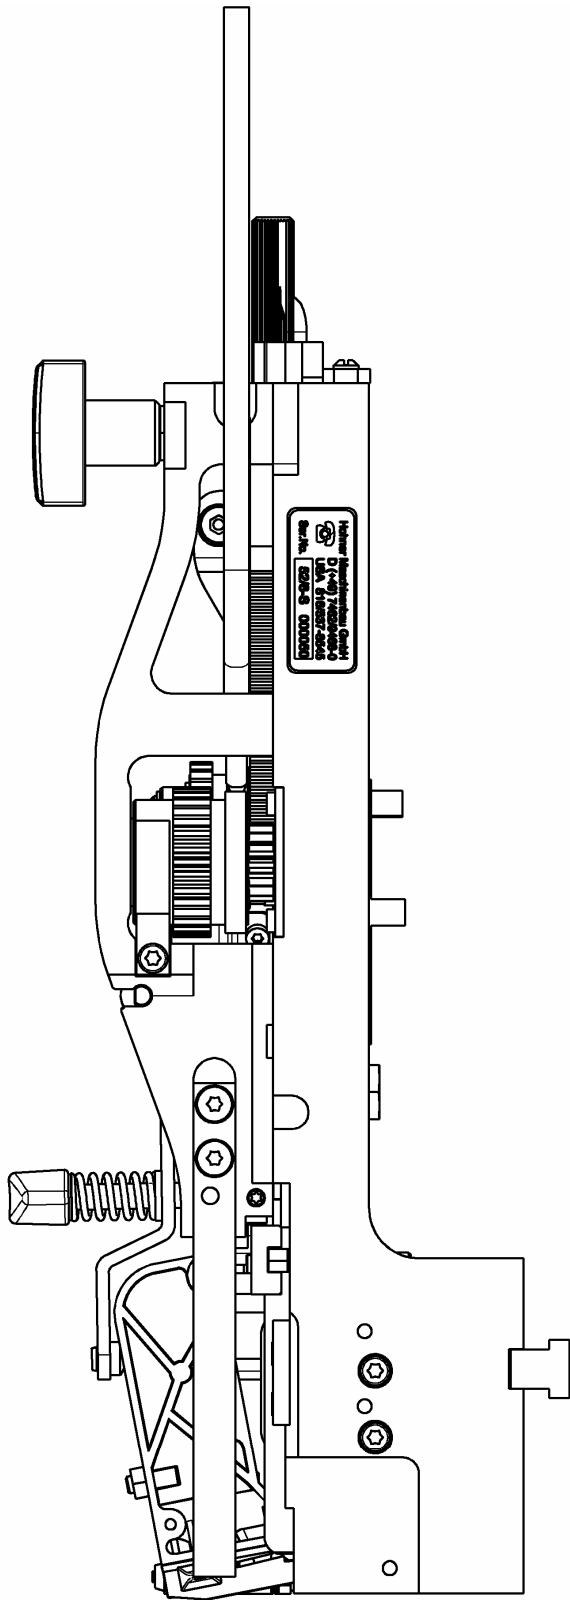
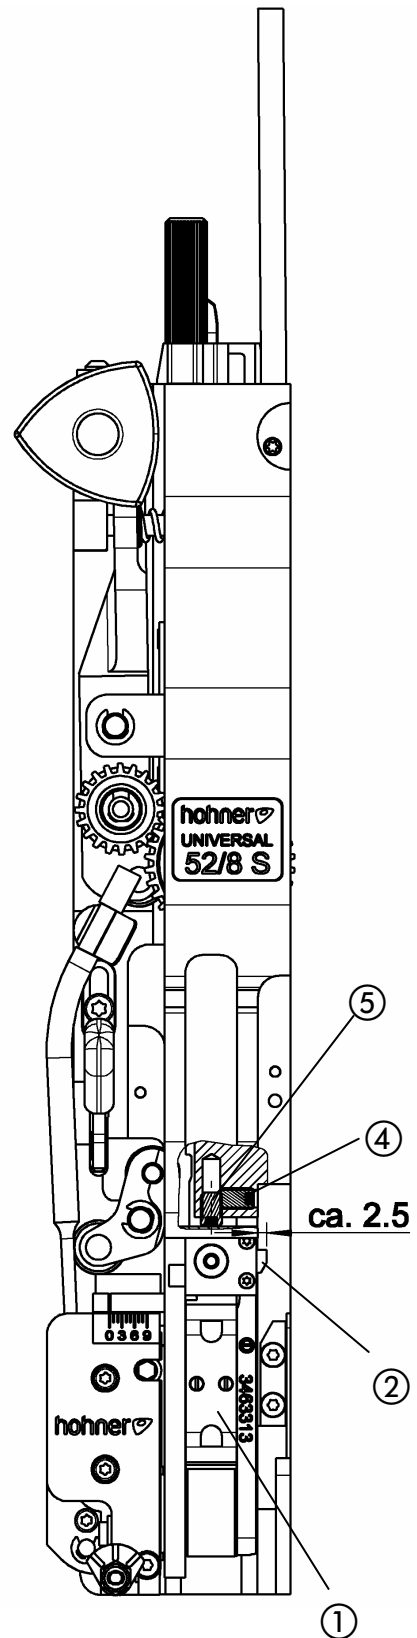

Fig. 16
Fig. 17
- Fig. 16, Fig. 17 -
The spine centering parts are only used for saddle stitching. They help to precisely position the stitch ① in the center of the sheet fold ② (cf. Fig. 17)